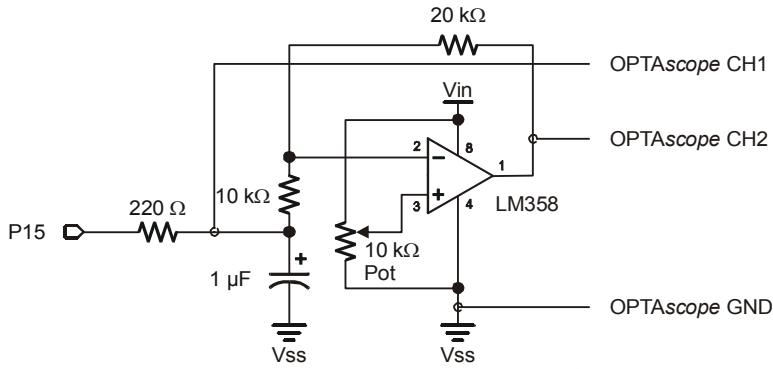
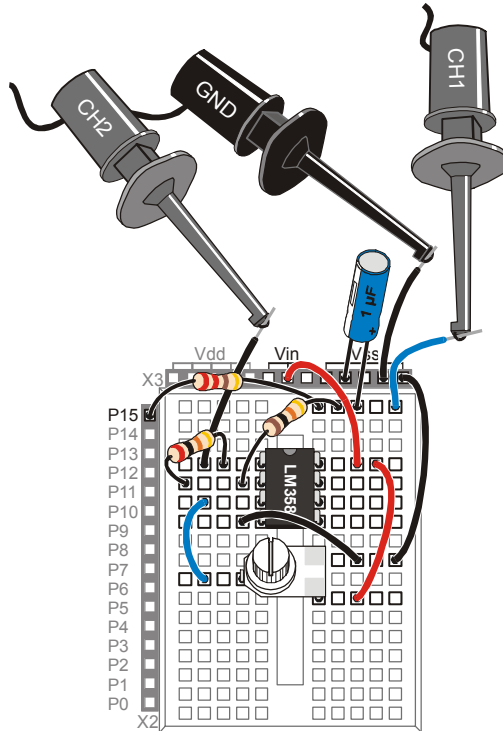

Figure 8-14:
Figure 8-15:
Recalling the formula Chapter 4, using a 10 k Ω resistor as R_i and a 20 k Ω resistor as R_f will cause a gain of 2. Recall also that in the case of an inverting amplifier, the voltage output will be *negative* 2 times the voltage input. Therefore, an input signal that swings from 1 to 3 V put through an inverting amplifier with a gain of 2 would output a signal that swings from -2 to -6 V. Further, recall that an op-amp cannot output a signal with a voltage that exceeds the voltages applied to the supply rails (V_{cc} and V_{ee}). Notice that in the schematic (Figure 8-14) that V_{ee} is connected to 0 V. Since the whole range of the output signal is below 0 V, the entire signal would be clipped, and would only be visible on the OPTAscope as a 20 mV flat line!
- √ Build the circuit shown in Figure 8-14 and Figure 8-15. If you are using the HomeWork Board, omit the 220 Ω resistor and make the necessary connection with a jumper wire.
- √ Once the circuit is built, connect the probes of the OPTAscope as shown Figure 8-15.